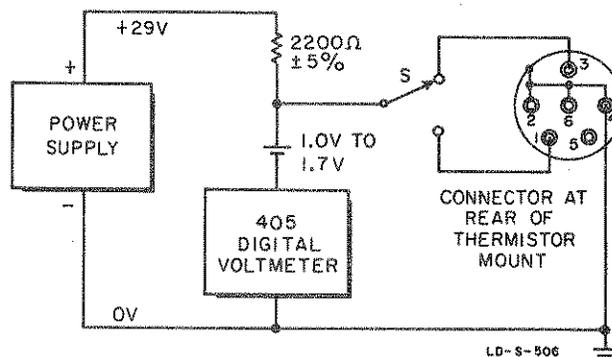

Figure 5. Check on Model 486A Thermistor Resistance Match
48. Damage to the match between the thermistors may be checked at room temperature by comparing the thermistor resistances under simulated operating conditions. Connect the equipment to the pins of the connector at the rear of the thermistor mount as shown in Figure 5. Select a suitable bucking DC voltage to reduce the voltage across the digital voltmeter for readings down to the nearest 0.001 volt. Take readings with switches connected to pin 1 and then to pin 3. Thermistor match is satisfactory if the two readings do not differ by more than 0.015 volt.